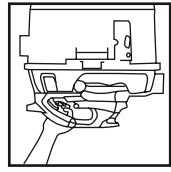

Fig. 3
3. While pressing the release trigger, lift the detachable blower from the vacuum cleaner cap (Figs. 3 and 4)